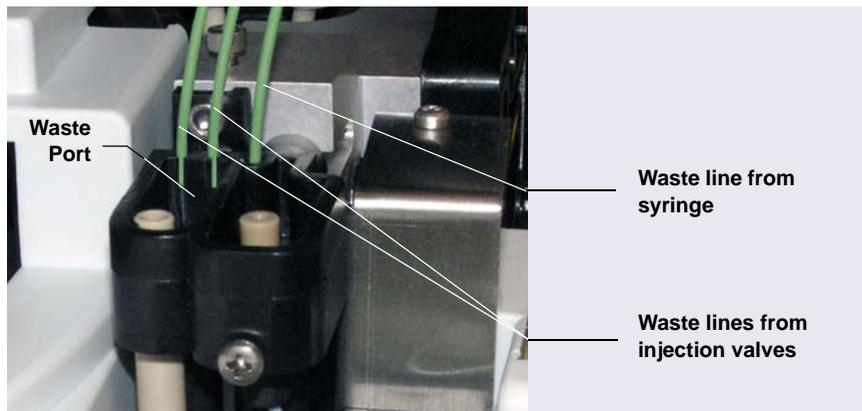

Figure B-23. *Waste Lines from Each Injection Valve Installed in Waste Port*
- d. Connect one end of the waste line to port **W** (6) on the injection valve. For a two-piece waste line, connect the black tubing to the injection valve.
5. Route the waste lines to the Dionex AS-AP waste port and insert the lines into the round openings in the port (see Figure B-23).